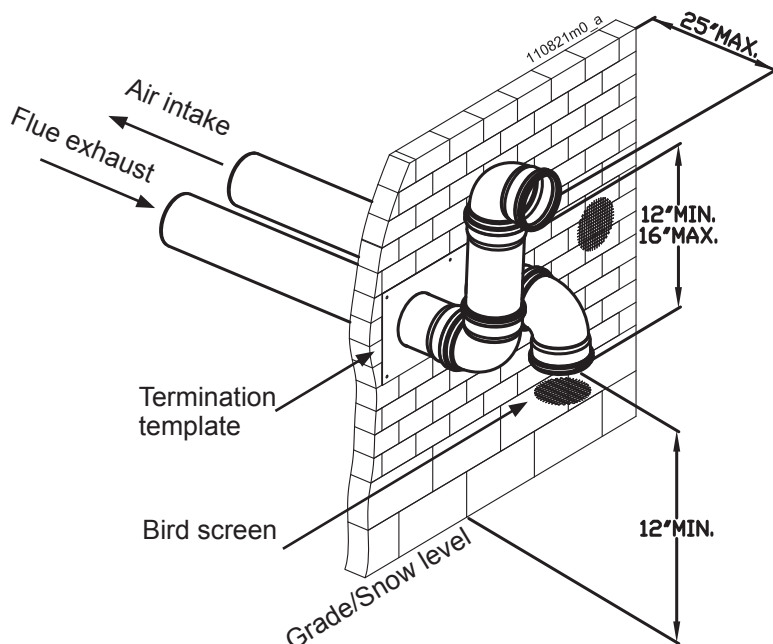

Figure 11-15 Two pipes sidewall termination of air and vent
3. The vent piping must terminate in an elbow pointed outward as shown in Figures 11-15 or 11-16.
Do not exceed the maximum lengths of the outside vent piping shown in Figures 11-15 or 11-16. Excessive length exposed to the outside could cause freezing of condensate in the vent pipe, resulting in potential heater shutdown.
3. The air piping must terminate in a down-turned elbow as shown in Figures 11-15 and 11-16. This arrangement avoids recirculation of flue products into the combustion air stream.
4. The vent piping must terminate in an elbow pointed outward or away from the air inlet, as shown in Figures 11-15 and 11-16.
! WARNING!!! Do not exceed the maximum lengths of the outside vent piping shown in Figures 11-15 and 11-16. Excessive length exposed to the outside could cause freezing of condensate in the vent pipe, resulting in potential heater shutdown.
5. Maintain clearances as shown in Figures 11-15 and 11-16. Also maintain the following:
1. The air termination coupling must be oriented at least 12 inches above grade or snow line as shown in Figures 11-15 and 11-16.
2. Maintain the required dimensions of the finished termination piping as shown in Figures 11-15 and 11-16.
3. Do not extend exposed vent pipe outside of the building more than what is shown in Figures 11-15 and 11-16. Condensate could freeze and block vent pipe.